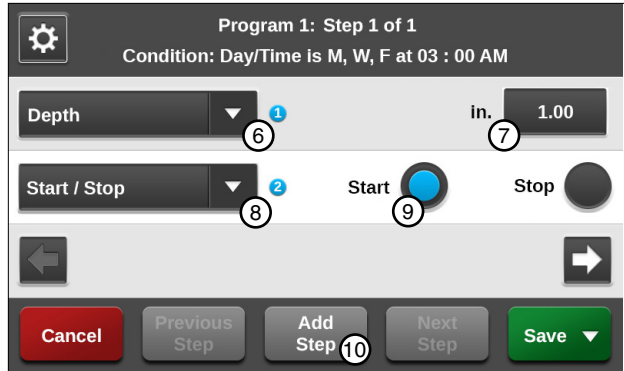

Figure 112-1 1. Water Command 2. Water On 3. Direction Command 4. Forward 5. Next 6. Depth Command 7. Inches 8. Start/Stop Command 9. Start 10. Add Step
4. Enter the commands to execute on Mondays, Wednesdays, and Fridays at 3:00 AM. Refer to Figure 112-1.